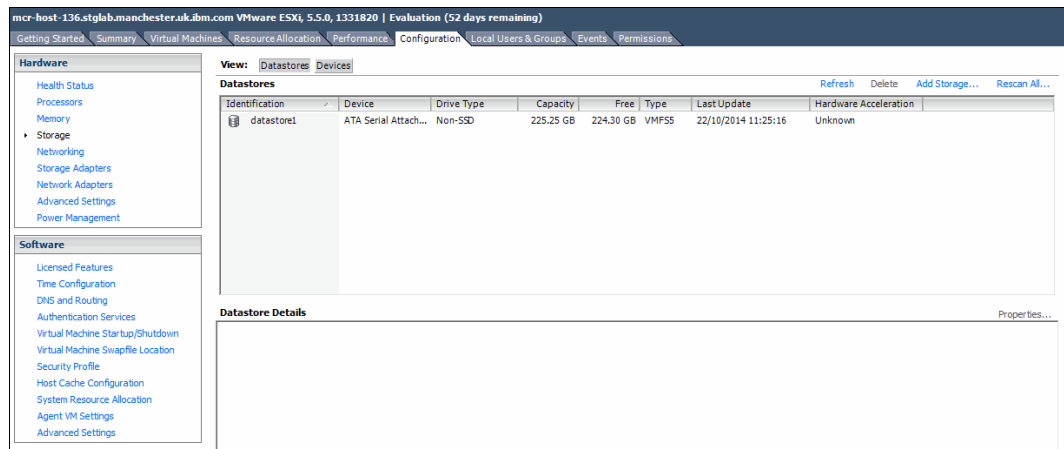

Figure 5-63 The storage view in VMware vSphere Client
- Go to **Configuration** → **Storage**. This opens the window shown in Figure 5-63.